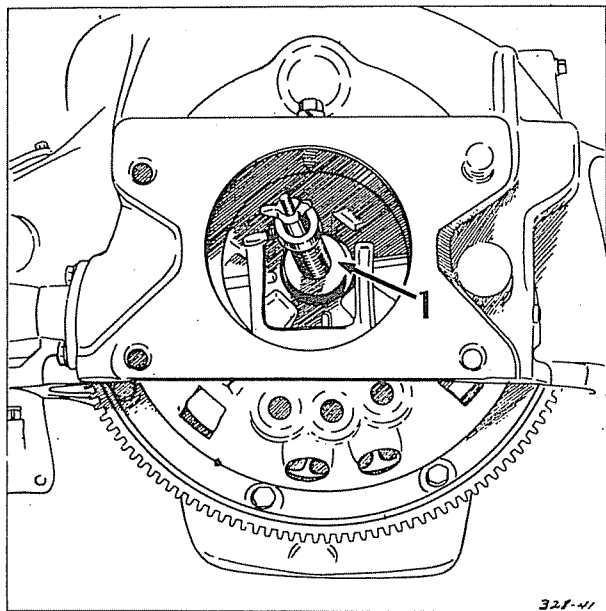

Fig. 5.—Clutch Disc Aligning Arbor Tool C-360.
- (3) Hold the clutch cover plate and disc in place and insert the aligning tool through the hub of the driving disc and into the drive pinion pilot bushing in the crankshaft. (Figure 5.) If a clutch disc aligning arbour is not available, the clutch shaft should be removed from gear box and used as a substitute.
- (4) Bolt the clutch cover plate loosely to the flywheel and make sure the marks on the cover and flywheel are in alignment.
- (5) The clutch cover bolts should then be tightened a few turns in rotation until they are tight. Instal the transmission, guiding into place with the pilot studs.